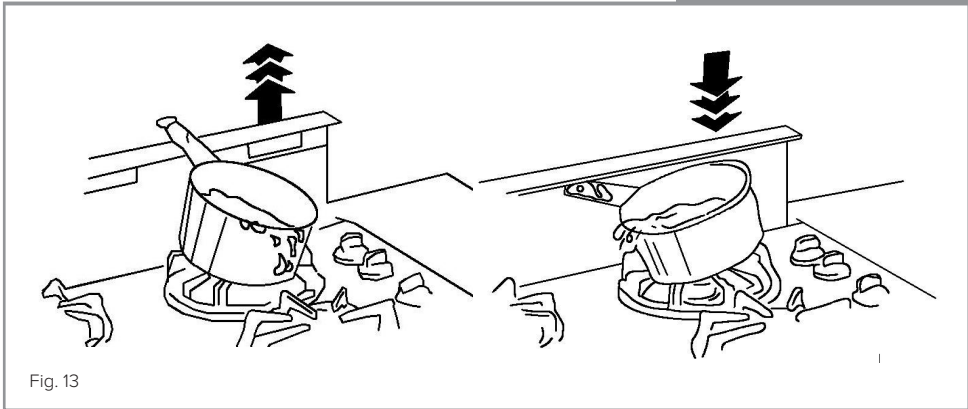

Fig. 13
2. Ensure that there are no other items in the vicinity to hinder the hood from rising or lowering, eg. handles, spoons, pens, etc. See (Fig.13).